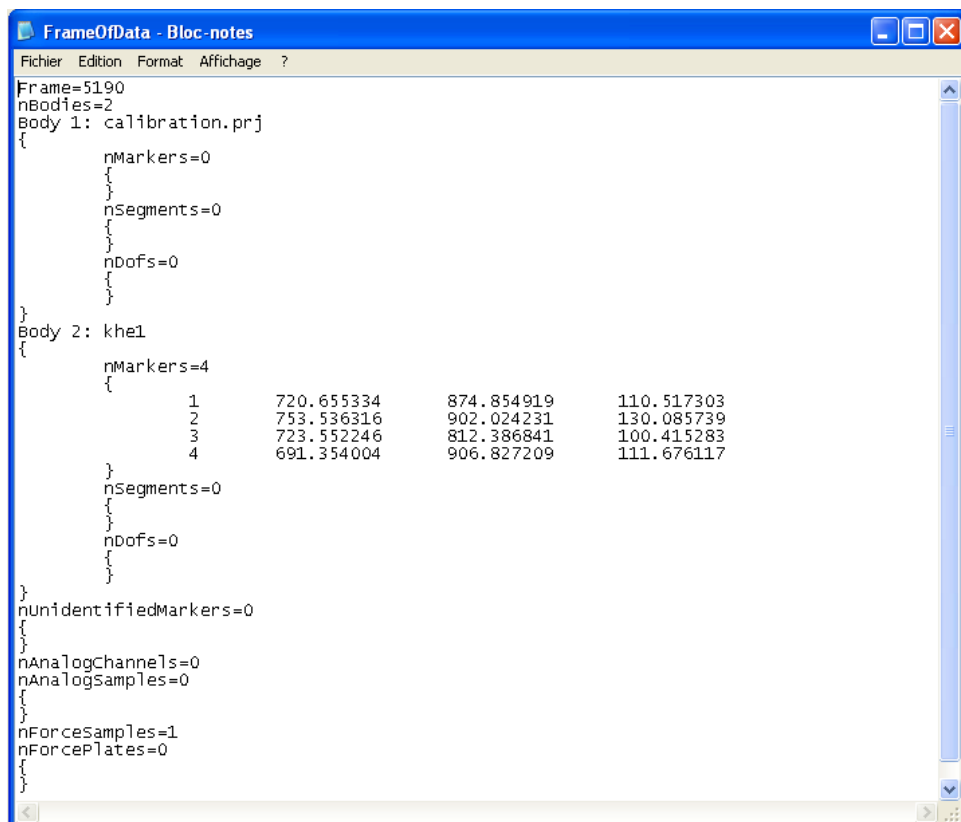

Figure 11: FrameOfData.txt example.
- In the program folder you will find a file "FrameOfData.txt", containing the name of the object you have defined and the position of the markers. In figure 11 there is an example of this file.